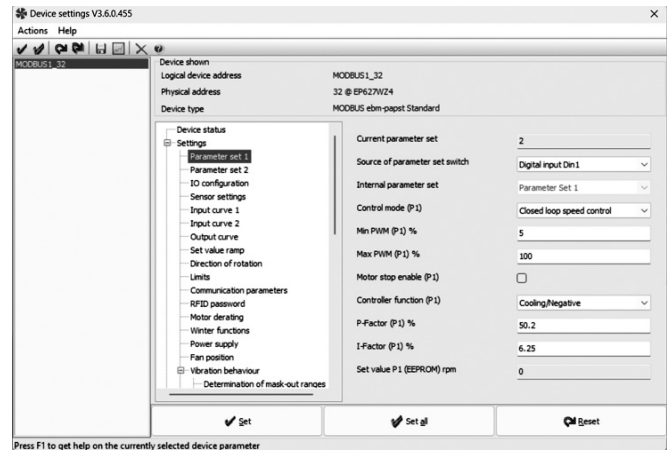

Fig. 16 — EC-Control Parameter Set 1
- b. Set the following parameters to match Fig. 16. “**Current Parameter Set**” will not be changeable, this is only to indicate what parameter set the fan is currently in.